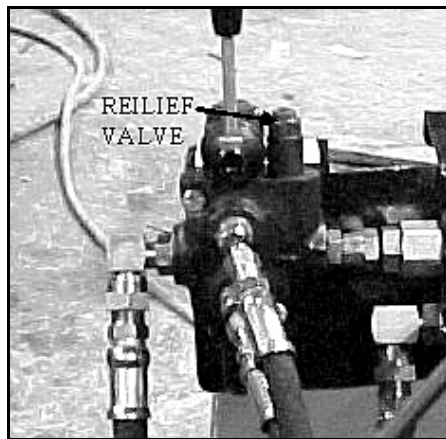
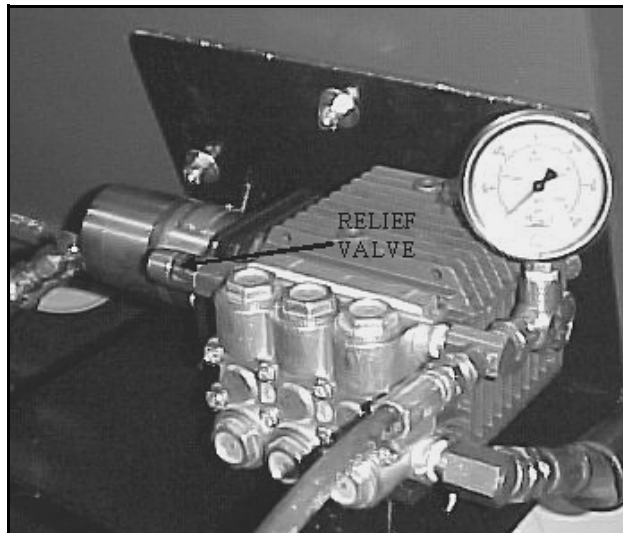

Figure 1.6 Single Spool Relief Valve
Figure 1.7 Pump Relief Valve
1. Use a 5/32" and a 1/4" Allen wrench to loosen the relief valve set screws on the single spool valve (Figure 1.6) and the water pump (Figure 1.7), to ensure that the pressure is at a minimum.